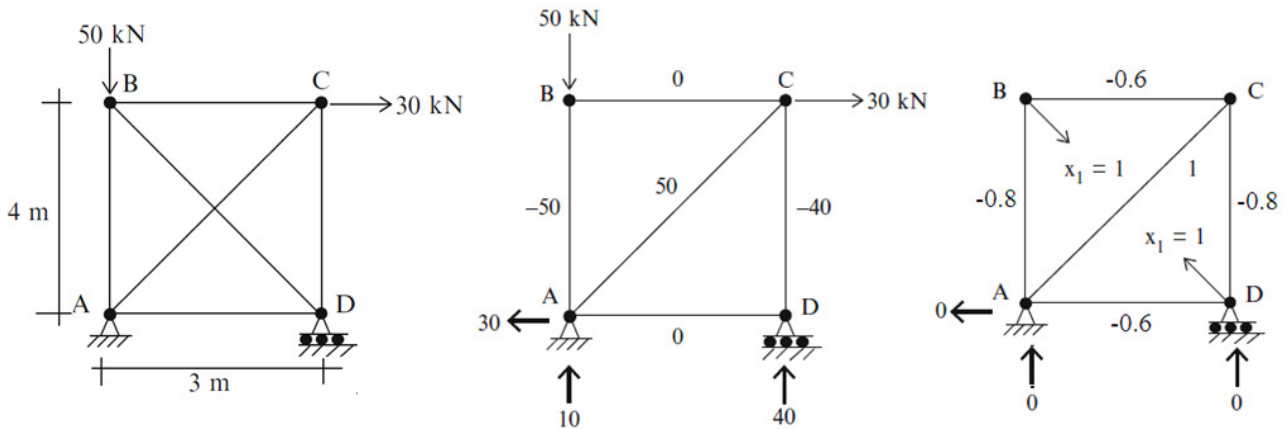

Figure Q2B
- (ii) A statically indeterminate truss is to be analysed. Using the information provided in Figure Q2B, construct a table and calculate the truss member forces. $A = 200mm^2$ and $E = 200GPa$ ($200 \times 10^6 kN/m^2$). [10]